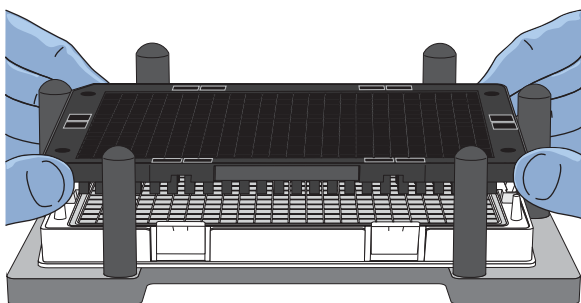

Figure 8 Place the array plate on the hybridization tray in the Plate Alignment Tool.
① Notched corner of the Plate Alignment Tool and hybridization tray aligned.
3. Hold the array plate with the arrays facing down, then slowly align the array plate into the Plate Alignment Tool until the entire plate is positioned within the 6 alignment posts of the tool. Ensure that the notched corner of the array plate is aligned with the notched corner of the hybridization tray. (See Figure 8.)